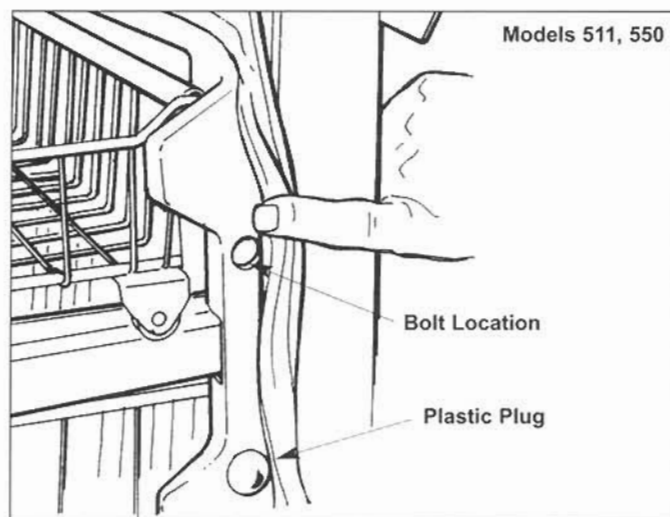

Figure 2-11 Door Pitch Adjustment
3. To adjust the drawer pitch, remove the two plastic plugs on each side of the liner (Figure 2-11). Use a socket wrench to loosen all four